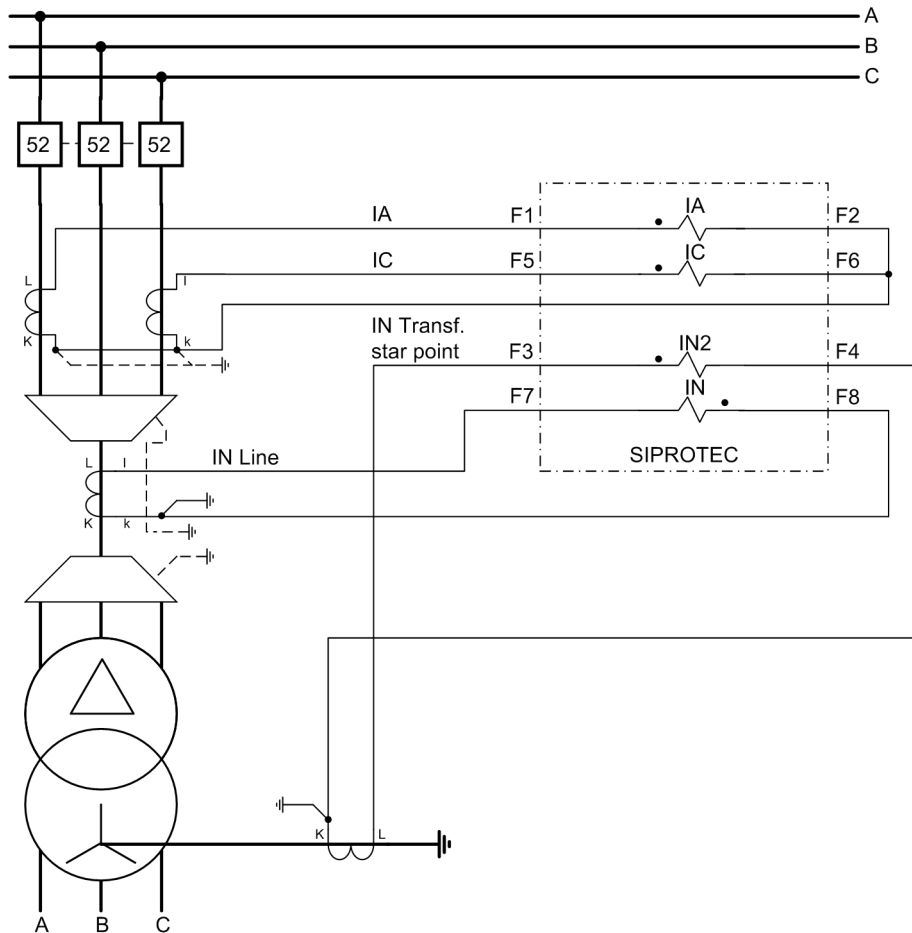

Figure 2-3 Measurement of two ground currents, example
1) Important! The function „Directional Time Overcurrent Protection Ground 67N“ may only be enabled if the ground current of the protected line is measured via  $I_{N2}$ . This is not the case in the example shown in Figure 2-3. Here, the ground current of the protected line is measured via  $I_N$ . The function must be deactivated. A connection in which the function can be enabled is illustrated in the Appendix A.3 Figure A-16.